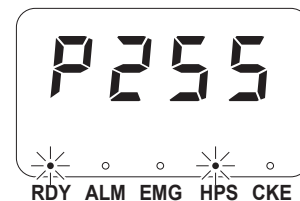

Fig. 7-139
- ① After turning the power ON of the table-top type robot (IAI-made TTA-A4 series), press the “ORIGIN” button. The tip will move to origin.
- ② After completion of origin return, the panel window display of the table-top type robot (IAI-made TTA-A4 series) is changed as shown in Fig. 7-139.